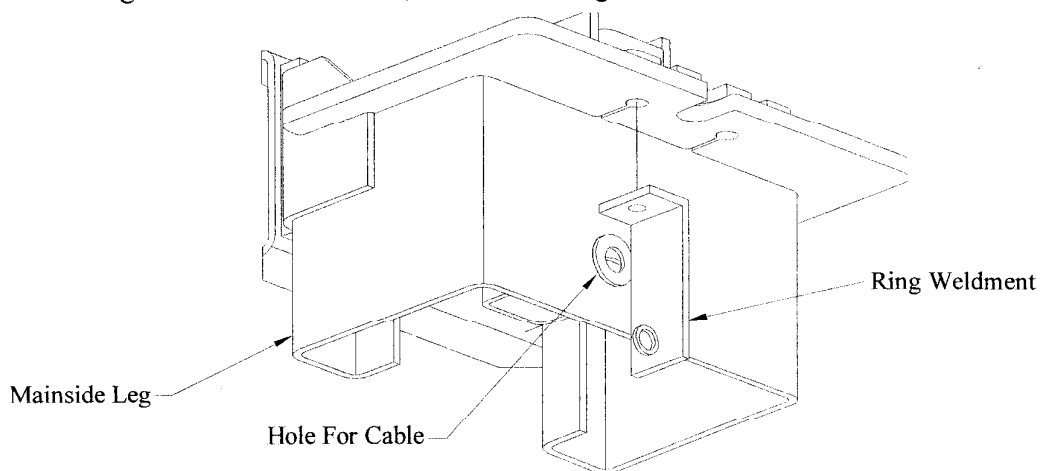

FIGURE 4
5. With the mainside leg on the ground, attach the ring weldment to the cylinder mount weldment using a 1/2 x 2-1/2 NC bolt, as shown in Figure 4.